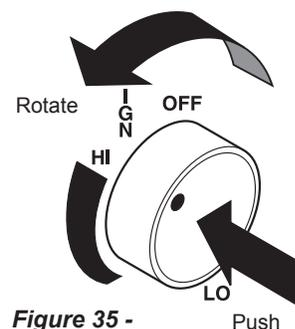

Figure 35 -
10. Push in control knob and turn counterclockwise to the HIGH setting. At this location the control knob will pop out when positioned correctly. The knob can now be positioned at any position between HIGH and LOW. Figures 35 and 36